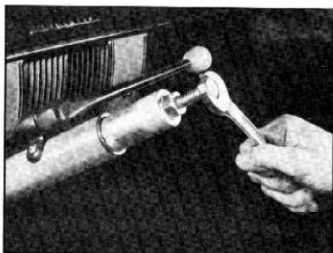

Fig. 8—Removing Mast Jacket Upper Bearing
5. Screw bearing puller J-2565 into top of bearing. Tightening the center screw in the puller removes the bearing from the mast jacket (fig. 8).